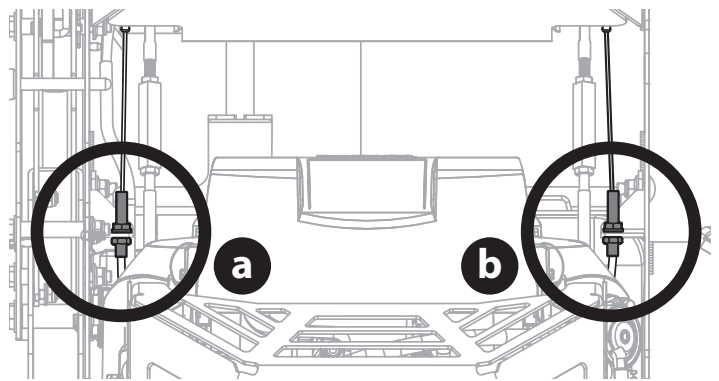

Fig. 23
- Locate parking brake cable inside right side (a) of control tower (Fig. 23).
- Repeat for parking brake cable on left side (b) of control tower (Fig. 23).
- Test parking brake by pulling the parking brake lever back to the engaged (ON) position and then trying to move the left and right rear tires by hand. Correct adjustment has been made if tires do not move.